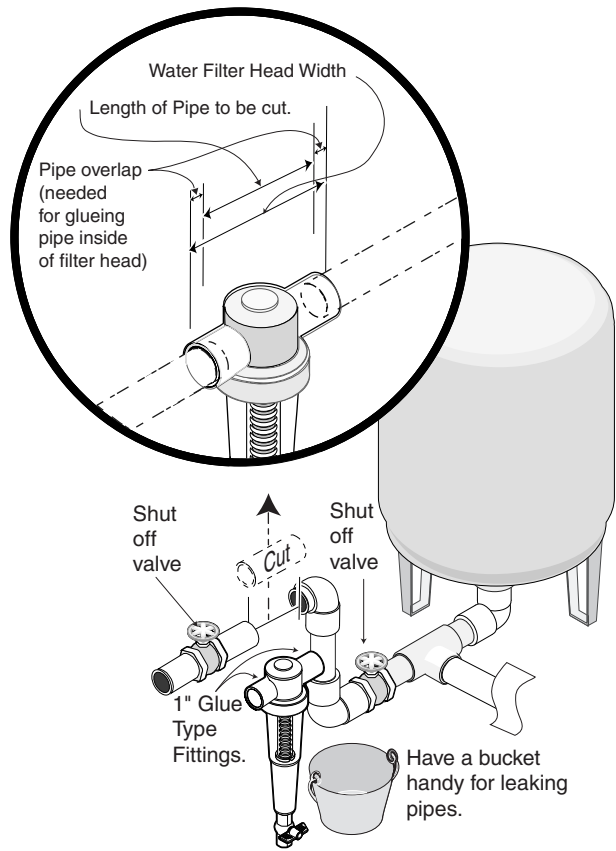

Figure 2
2. Select the location where you will install your filter in the water line. See Figure 2.
3. Measure and cut the water pipe based on your individual installation (Figure 2). Have a bucket available to catch any water from the cut pipe.